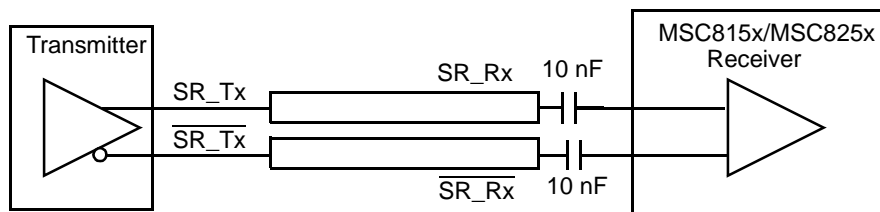

Figure 16. SRIO/SGMII SerDes Transmitter to Receiver Connection
- SRIO/SGMII connection. Place a 0.01 μF capacitor on the receiver side near the DSP. Part number ECJ0EB1C103K (10 nF) is recommended as shown in **Figure 16**.
- Figure 16 is an example for SRIO blocking capacitor connection